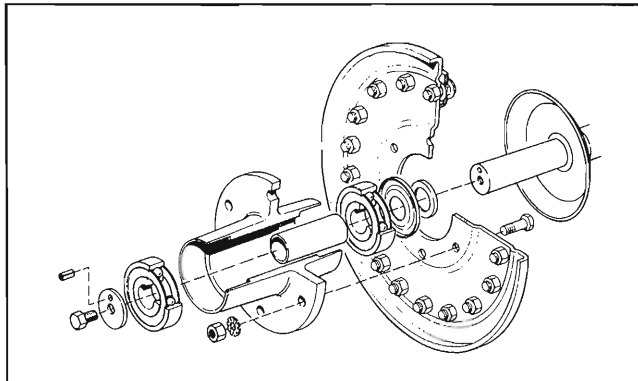

Fig. 6: Finger Wheel After Serial #2577.
- 8b. For a WR204 Rake after Serial #2577, the Closing Ring **MUST** be correctly positioned and assembled so that the small hole for the Roll Pin is lined-up with the mating hole in the Axle Shaft as shown in Fig. 6. The Roll Pin **MUST** then be installed to prevent the Ring from turning. Attach and secure the Ring with the 10 mm Bolt provided.